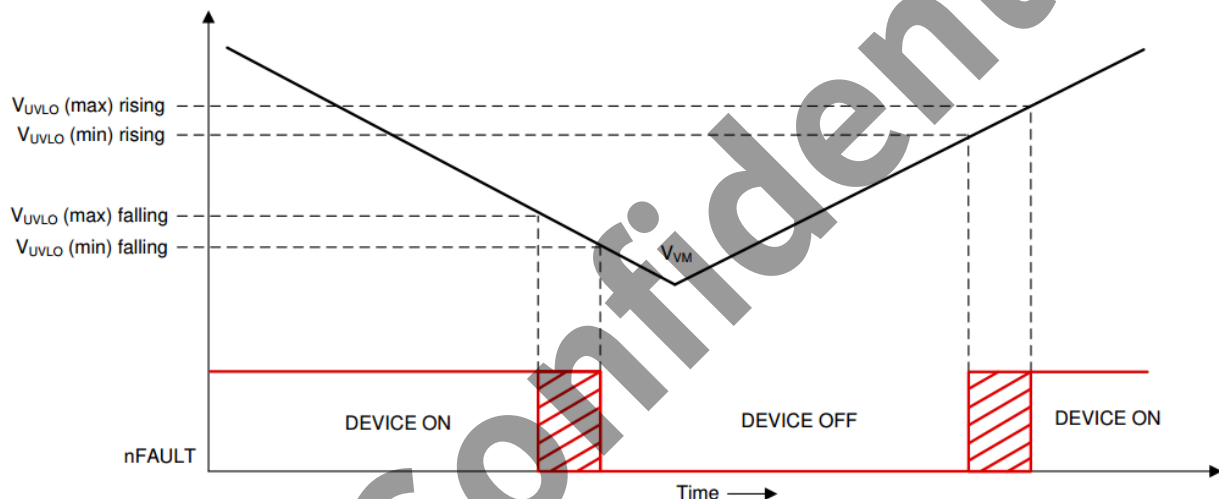

Figure 3-26 VM UVLO Operation
If at any time the input supply voltage on the VM pin falls below the V_{UVLO} threshold, the OVP bit is latched high in the IC status (IC_STAT) register and the operational behavior of the charge pump (CP) subsequent to the VM UVLO event is configurable via the CP_VM_UV_DIS bit in ADD_CONFIG_CTRL register: when CP_VM_UV_DIS bit is set to 0 (default), the charge pump is disabled and the chip is powered down; when set to 1 (high), the charge pump remains operational, all external half-bridges are disabled, and the nFAULT pin is driven low as shown in Figure 3-26. Normal operation resumes (driver operation and the nFAULT pin is released) when the VM undervoltage condition is removed. The UVLO bit remains set until cleared through the CLR_FLT bit.